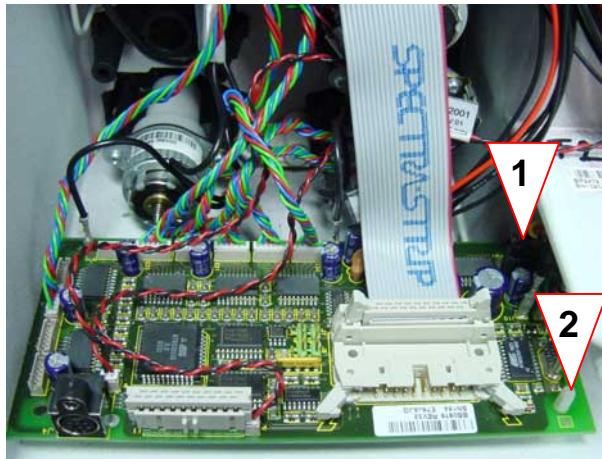

Fig. 3-64 Actuator board
3. Disengage the Actuator board from the clips by pressing them together at the top (see Fig. 3-64, 1 and 2).